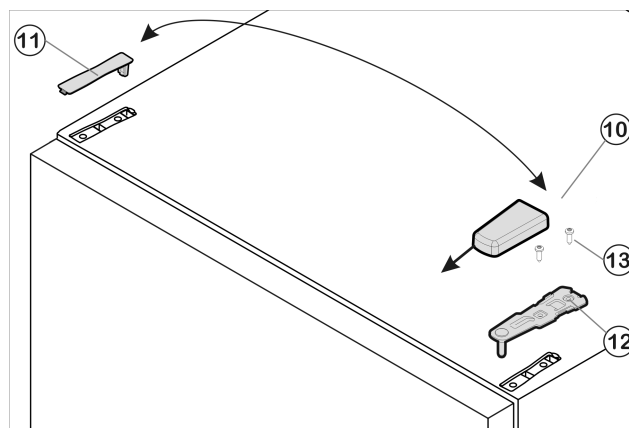

Fig. 20
► Pull cover *Fig. 20 (10)* forward and then upwards to remove.
► Lift off cover *Fig. 20 (11)*.
► Unscrew upper bearing bracket *Fig. 20 (12)* (2 x Torx 25) *Fig. 20 (13)* and pull it upwards to remove.
- Insert the upper bearing bracket *Fig. 20 (12)* on the new hinge side into the door.
- Secure the upper bearing bracket *Fig. 20 (12)* **tightly by applying a torque of 3 lb-ft (4 Nm)** (2 x Torx 25) *Fig. 20 (13)*. Make preliminary holes (optional) or use a cordless screwdriver.
- Snap both cover *Fig. 20 (10)* and cover *Fig. 20 (11)* into place on the opposite side.